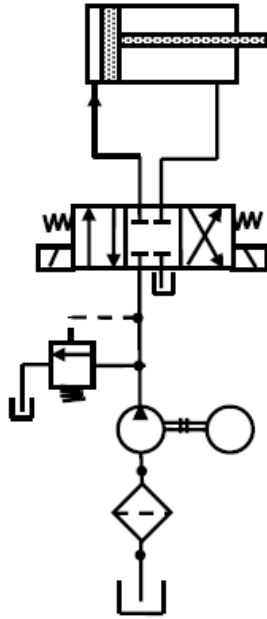

Figure 2.1 - Suction filter
- **Intake or inline filters (suction strainers):** These are provided first before the pump to protect the pump against contaminations in the oil as shown in Fig. 2.1. These filters are designed to give a low pressure drop, otherwise the pump will not be able to draw the fluid from the tank. To achieve low pressure drop across the filters, a coarse mesh is used. These filters cannot filter out small particles.